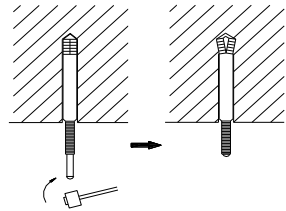

Fig. 4.6
- (3). Insert the anchor bolts into the drilled holes, and drive the pins completely into the anchor bolts with a hammer. (Fig. 4.6)